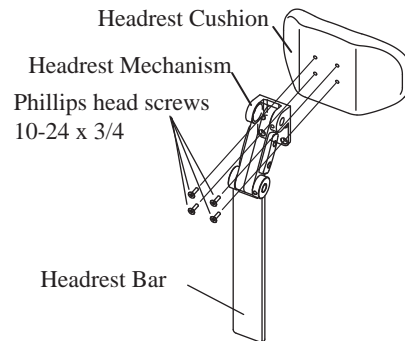

Fig 4-2-5
- 9) Attach headrest cushion to headrest mechanism and slide headrest bar into opening in top of backrest. See Fig 4-2-5.